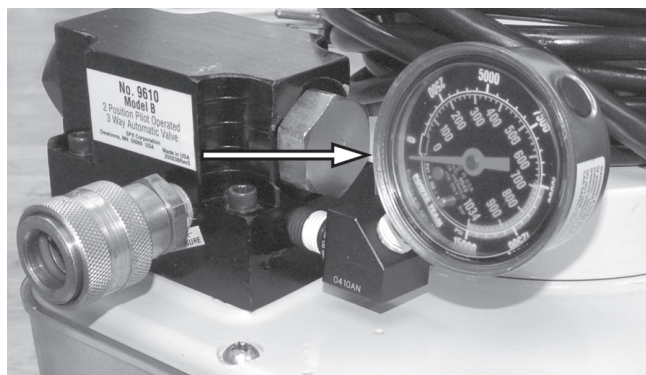

Figure 6. Pressure Gauge Installation
4. Refer to Figure 6. Install the pressure gauge.